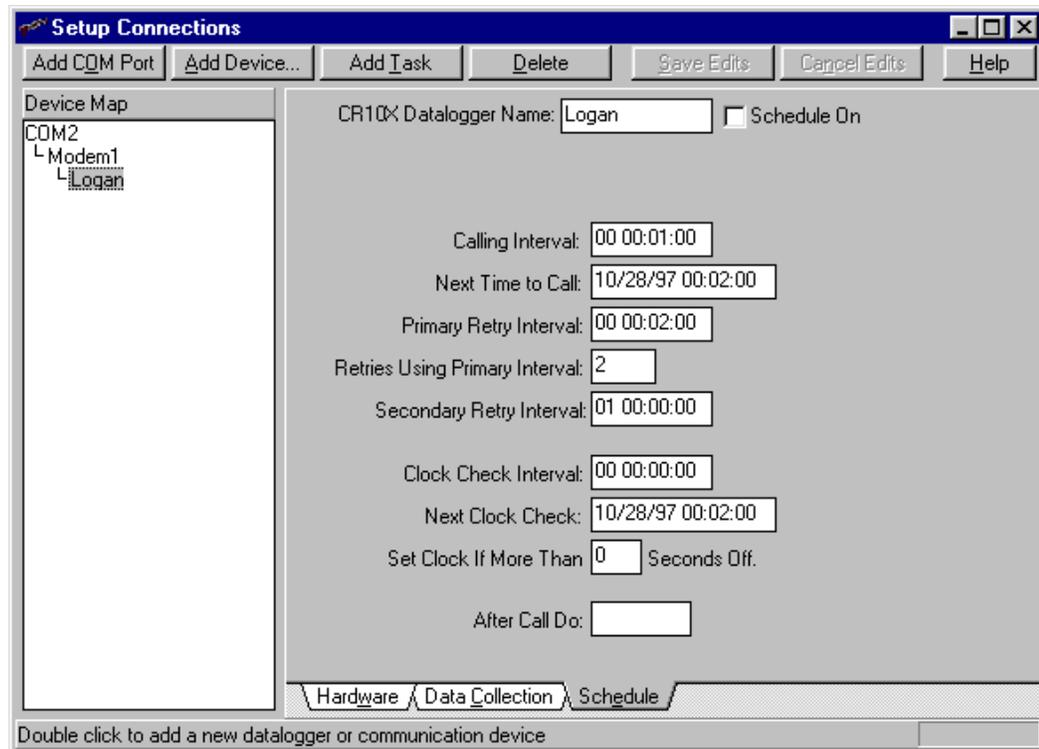

FIGURE G.3-5. Example Schedule Settings
- On the Datalogger’s Schedule screen, the “After Call Do” must be verified. This is the place to put the name of a Task to run after the call. The Task is an optional fourth Device that would run a batch file (.BAT) or program after the data has been collected and before the computer returns to the wait mode to wait for incoming calls. (This example does not run a Task after collecting the data so this field is blank, Figure G.3-5).